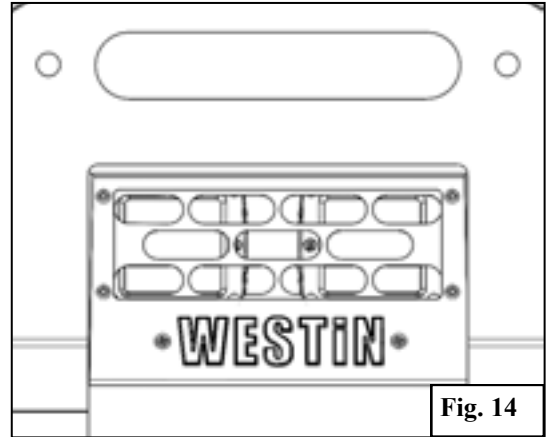

Fig. 14
- The center cover (**Item 18**) can be mounted in addition to the 3" LED cubes if desired, **Figure 14**.